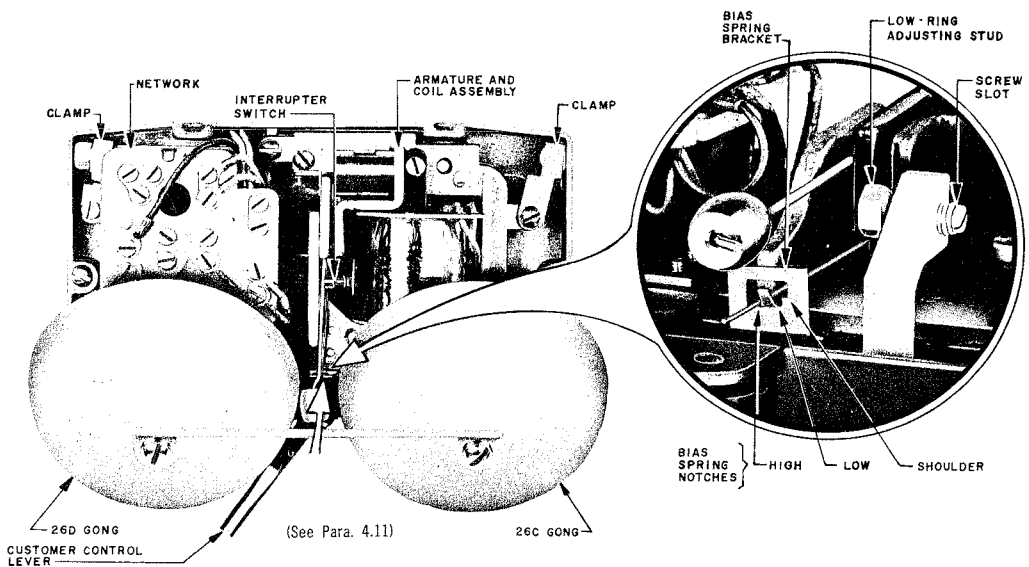

Fig. 2 — QCY1A1 Bell Chime — Components
Remove the QCY1A1 Bell Chime from the shipping carton with care prior to installation to avoid changing the adjustment of the interrupter switch assembly (Fig. 2). Handle the Bell Chime using the stop bar attached to the two gongs. Keep the Bell Chime in a plastic bag in the shipping carton prior to installation and when removed from service.
4.11 Adjust the volume of the low ring by moving the adjusting stud (Fig. 2) right or left; use a small screwdriver in slotted end located beneath the right gong. The volume of the Bell Chime can be toned down in all three positions by the use of the 100B Gong Attachment modified as shown in Fig. 5.
5.01 The Bell Chime is shipped with the bias spring in the high (left) notch. Do not move the bias spring to low notch unless trouble is experienced. The bias spring must never be placed on the shoulder located to the right of the low notch. Table A indicates proper position of bias spring for various classes of service (see Fig. 2).